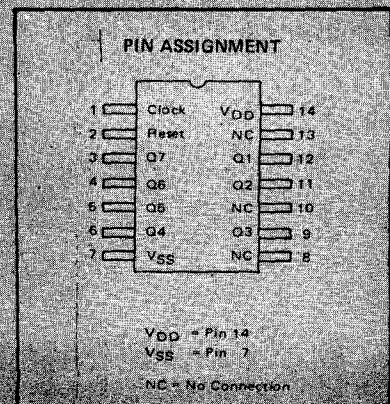

Fig. 5. Pin assignment diagram for the 555 timer IC.
The output pulses from IC1 are connected to the input of the seven stage ripple counter IC2. For those not familiar with this device - it comprises seven, bistable multivibrators (flip-flops) connected in series. One output terminal of each flip-flop (FF) is brought out to a pin and they are named Q1 to Q7 in the pin assignment diagram Fig.5. Assuming all outputs are first set low, i.e. logic 0, then when the first negative going edge of the input pulse reaches the input of FF1, its output